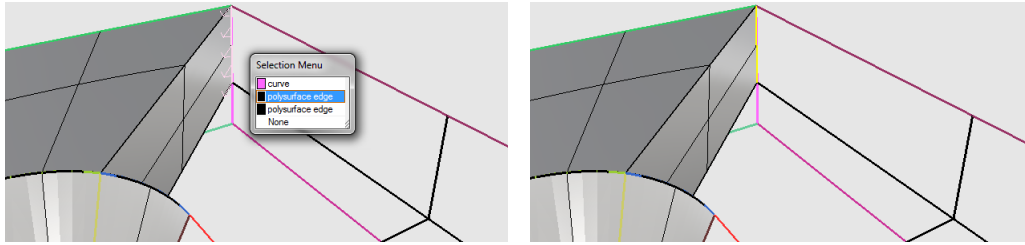

Figure 72: Selecting the correct vertical line
3. Make sure nothing is selected, and select **Surface|Loft**. Click on the **far-right vertical** edge of the Solid and when the **Selection Menu** appears (Figure 72, left), click on any of the **Polysurface edge** items to select the first curve of the Loft operation (right): you have selected one curve of the Loft.